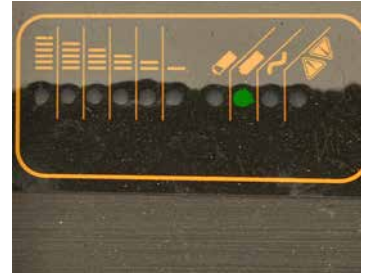

Figure 4: The LED display on top of the charger indicates when the battery is completely charged. For a complete list of LED messages, see page 13.
- Confirm the charging status on the LED display on the charger. (Figure 4)